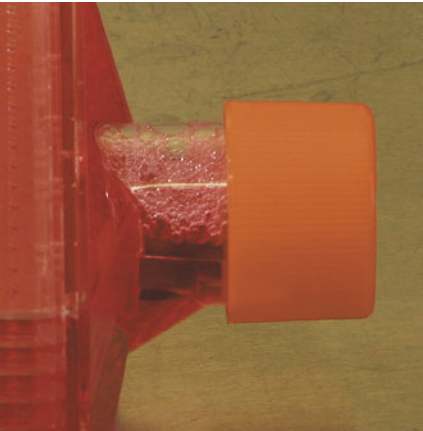

Figure 3. Placing the flask on end in the incubator and then lowering it slowly will keep any bubbles in the cap area.
6. Cap the flask tightly by ensuring that the cap is tightened past the detent feature. Move to the horizontal position with the angled neck of the flask facing down (Figure 3). Confirm that all bubbles remain contained within the neck.